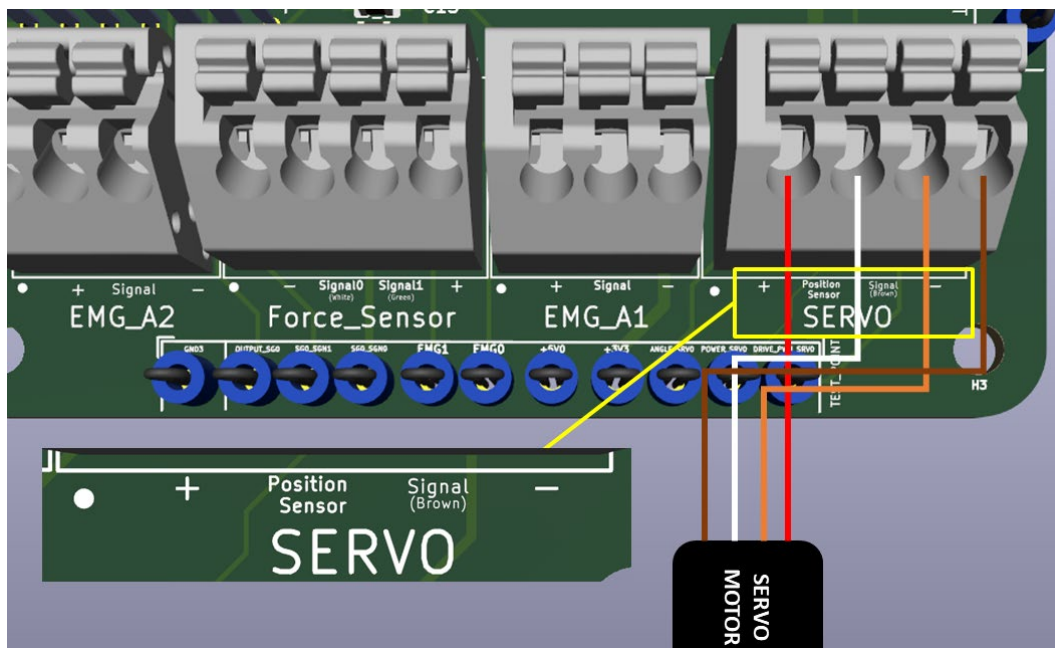

Fig. 21. Visual guide on connecting the servo motor to the terminal block
- Connect the control signal wire (orange) to the pole labeled "Signal", as illustrated in Fig.21.